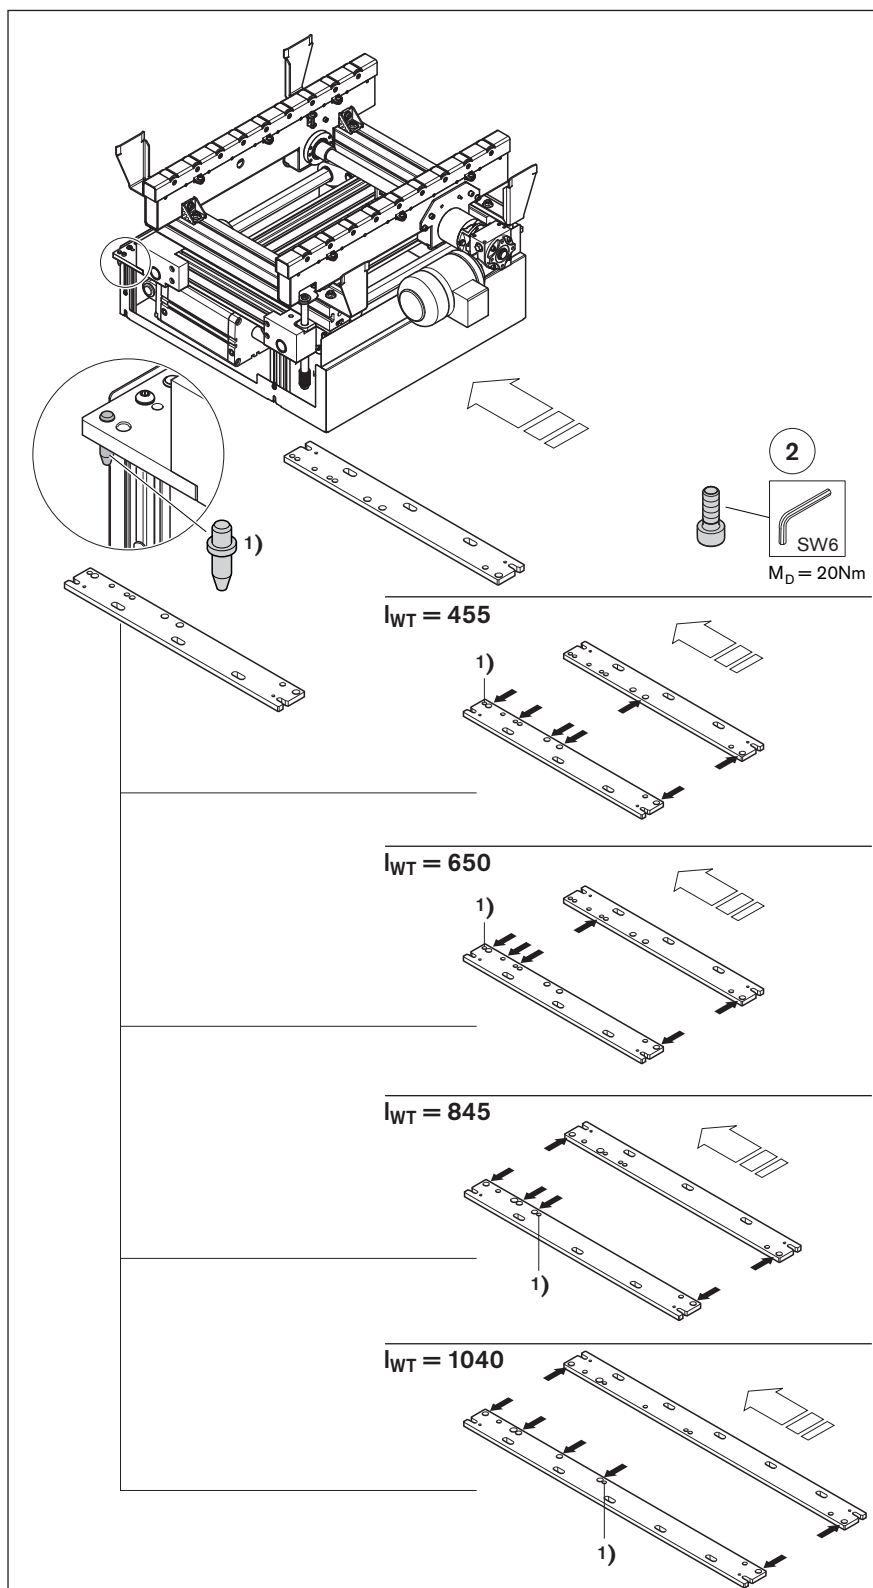

Fig. 60 HQ 5, assembly from the bottom (2/4)
4. Support the HQ 5 lift transverse unit, lower the ST 5/... conveyor unit onto it with a crane and tighten together. The required openings are indicated by an arrow. Position of the HQ 5: Fig. 60, 74